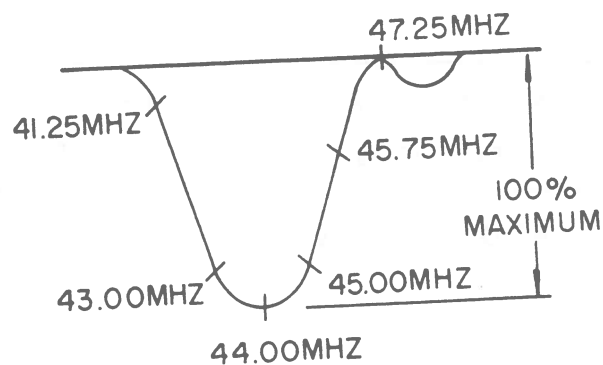

Figure 9
2. Adjust L603 to obtain overall waveform as shown in figure 9.